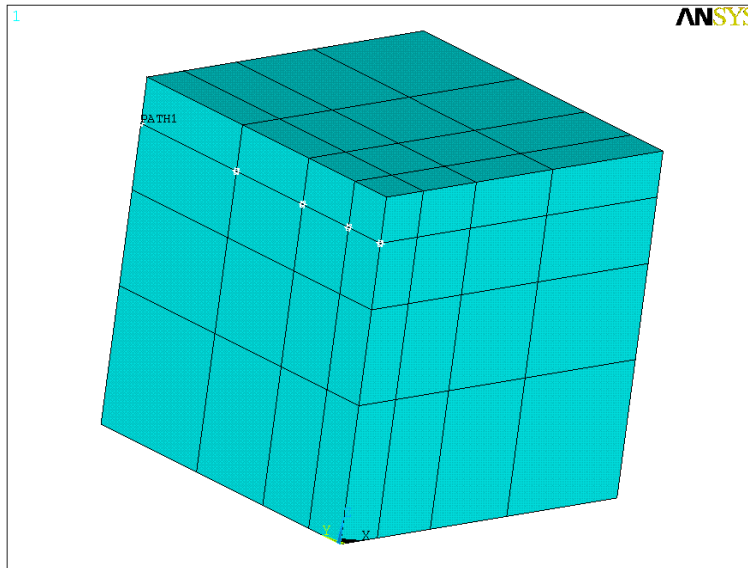

Figure 2.2
4. Click the second tier of nodes in the YZ plane, as shown in Figure 2.2, then click ‘OK’. (Figure 2.2 was produced using the ‘Plot Paths’ function in ANSYS.)